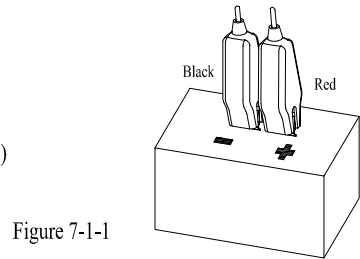

Figure 7-1-1
1. The red clip of the power cord is clamped at the positive electrode (+) of the power supply, and the black clip is clamped at the negative electrode (-) (Figure 7-1-1).